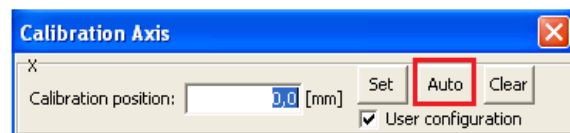

Fig. 42 How to run auto calibration process
7. After successful execution of the process of auto calibration the user is informed of its completion (Fig. 42)